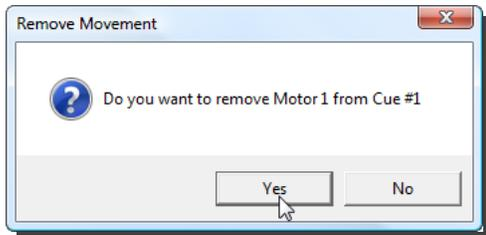

Figure 232
2. Click **Yes** in the **Remove Movement** confirmation dialog box (Figure 232).